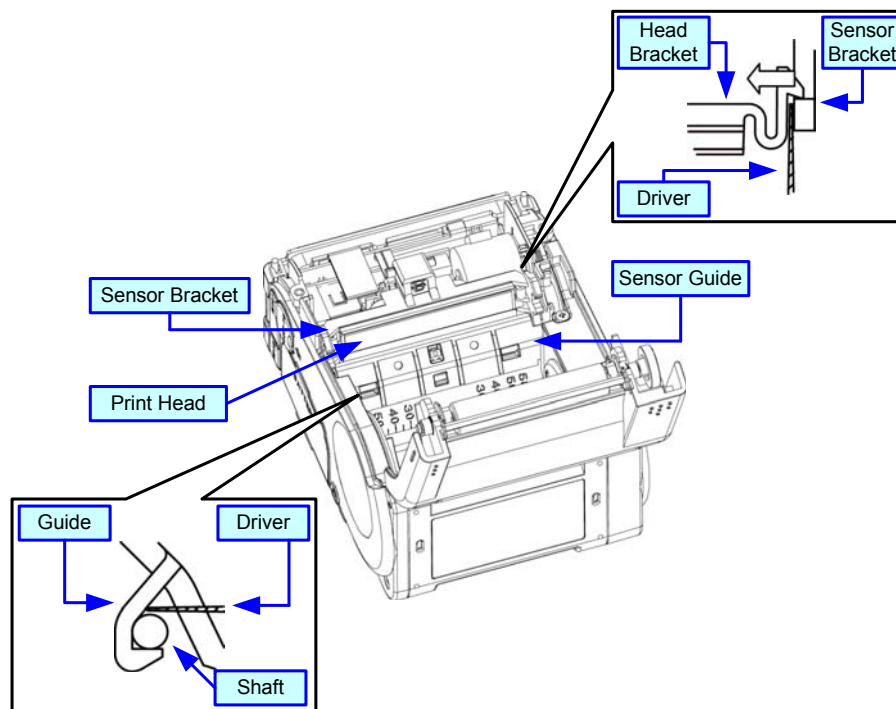

Figure 7-1a, Print Head Replacement
- 3 Open the top housing cover to access the print head (Figure 7-1a).